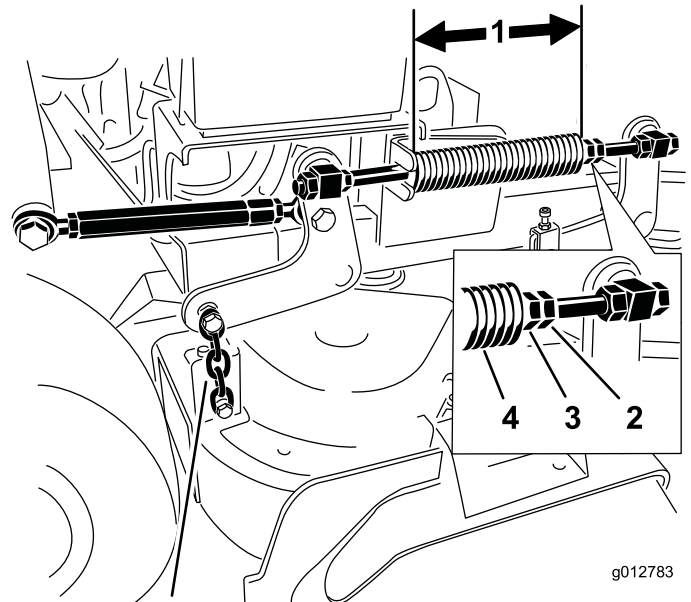

Figure 87
inch mower decks and 10-1/8 inches (25.7 cm) for 40 inch mower decks (Figure 87).
- Adjust this distance, by loosening the spring jam nut and turning the nut in front of each spring (Figure 87).
- Lock the nut into position by tightening the spring jam nut (Figure 87).